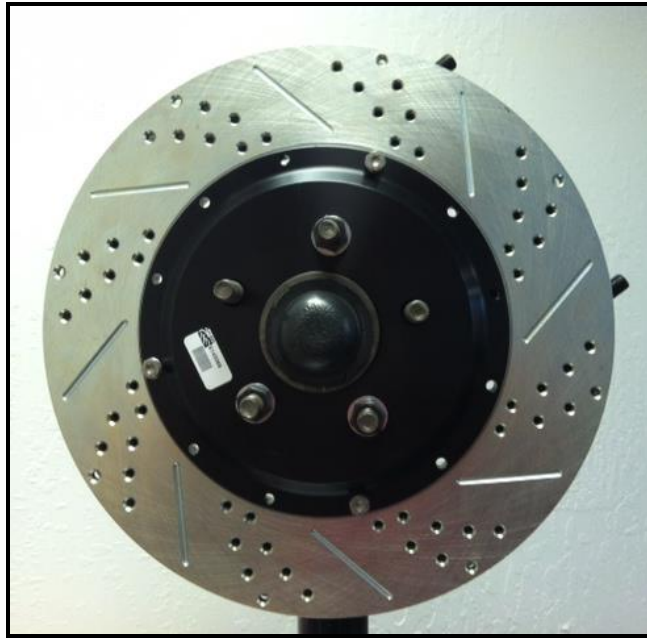

Figure 4: Rotor installed with lug nuts and washers
7. Install the correct side rotor and secure with three lug nuts and washers to avoid scratching the rotor hat. See Figure 4, below: